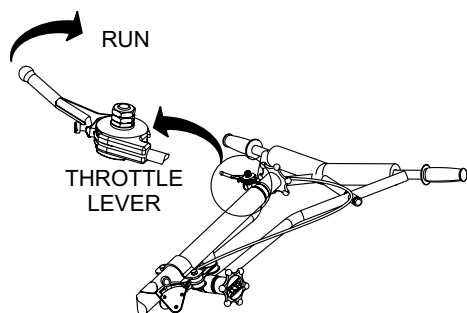

Figure 28. Throttle Lever (Run)
1. To begin troweling, pull the throttle lever (Figure 28) backward to the "**RUN**" position.